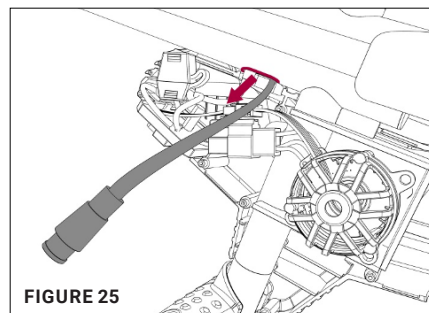

FIGURE 25
10. Run the wire back through the frame and reconnect. [Figure 25]